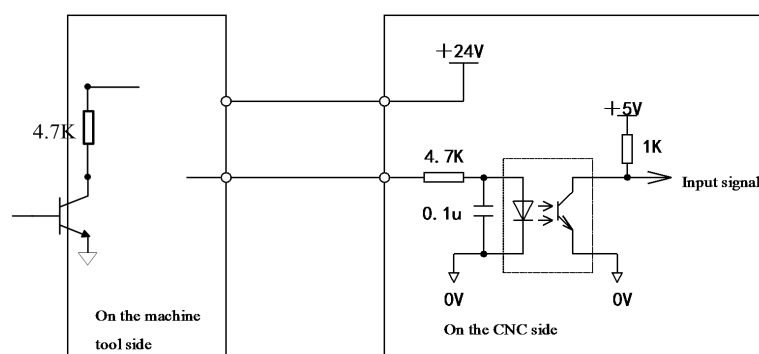

Figure 3-2-2
- b) The signal loop for this type of signal is as shown in Figure 3-2-2